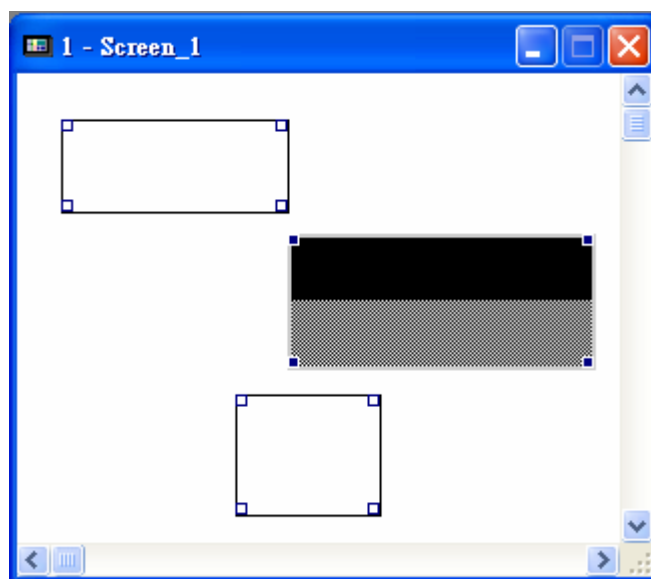

Figure 29. Step 2
2. Left-click on the master object, then four corners of this master object should be shaded. See Figure 29.